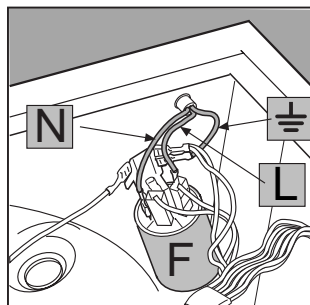

Fig. 4
- 3. Disconnect the wires from the radio interference suppressor F [fig. 4] noting as to their position (Blue=N wire; Brown=L wire) leaving the earth wire until last \perp .**